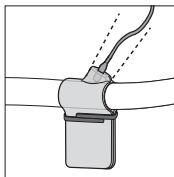
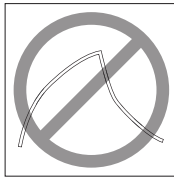
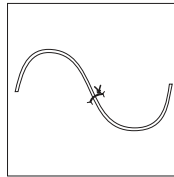

Figure 9
Figure 11
Figure 12
5. When routing wire away from the vessel, a loose suture (See Figure 12) may be placed around the wire such that probe wire and tissue movement do not affect the orientation of the strap around the vessel but loose enough to allow for proper probe removal.
Optimal wire position would be aligned with probe tip (See Figure 9 and 10). Do not bend probe wire at a sharp angle (See Figure 11). See Figure 12 for an example of proper probe wire (curved angle).